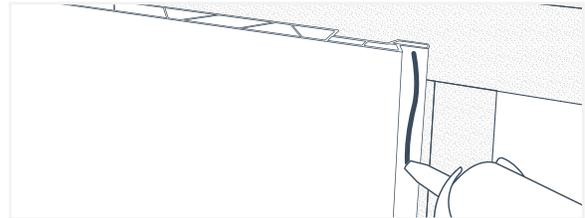
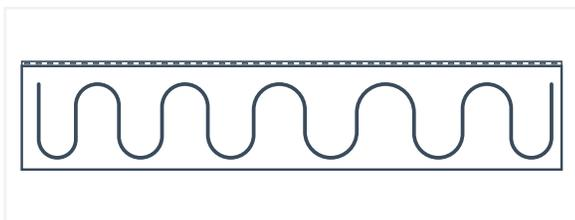

Fig. 44
Fig. 45
8. Then apply a smaller, 1/4" thick bead of silicone directly on top of the tongue of the existing adjacent panel (Fig.44). If you're using a backer, applying silicone to the back of the replacement panel is also recommended (Fig. 45).